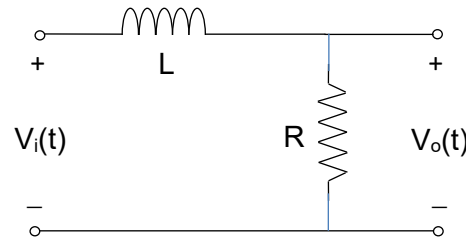

Figure 2. Low-pass RL circuit.
For part III of this lab, consider the circuit shown in Figure 2. The input voltage is $V_i(t)$ and the output voltage is $V_o(t)$.
- Find an analytical expression for the amplitude of the frequency response of the circuit in Figure 2. Your response will be a function of frequency ω , as well as R and L . Determine the low-frequency ($\omega=0$) gain, high frequency ($\omega \rightarrow \infty$) gain, and the frequency at which the gain $20 \log_{10}(|V_o|/|V_i|) = 20 \log_{10}(1/\sqrt{2}) = -3\text{dB}$ (also called the *half power point*, *corner frequency*, *break frequency*, *3dB frequency* or *cutoff frequency*).
Construct the circuit shown in Figure 2 using nominal values of $R=300\Omega$ and $L=1\text{mH}$. Using the DMM and the RLC meter, measure the actual values of R and L that you use in your circuit, and record these values in your lab notebook for later analysis. (Note: The instructor or TA will show you how to use the RLC meter.)
1. Diagram of the circuit (Fig. 2). Circuit diagrams can be cut from the lab assignment and pasted into your report. (1 pts)